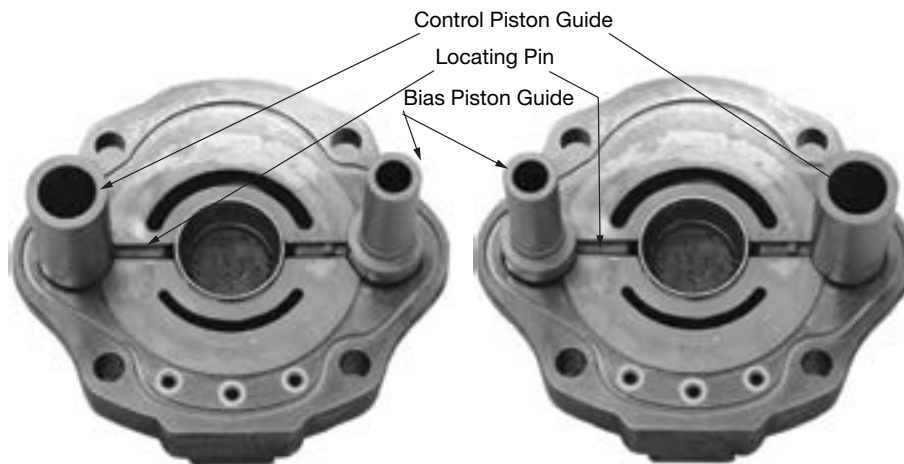

Figure 4A
18. Apply Loctite Primer 7469 to the guide threads and allow to dry. Install unlubricated o-rings on the control guide and bias guide. Apply Loctite 272 to the guide threads. For right hand rotation the control guide is installed nearest to the dowl pin (Figure 4A). For left hand rotation the bias guide is installed nearest to the dowl pin (Figure 4B). Torque the control and bias guides as specified in Chart 3.